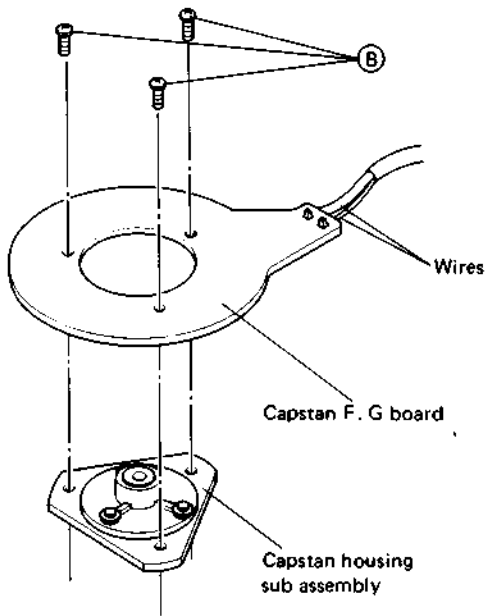

Fig. 4-26 Capstan F.G. board replacement
3. Take out three screws (B), indicated in Fig. 4-26, and remove the capstan FG board. Unsolder the lead wires.